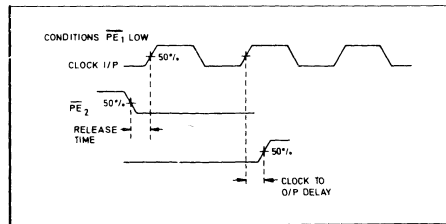

Fig. 4 Release timing diagram
- Release time is defined as the minimum time that can elapse between a H→L transition of a control input and the next L→H clock pulse transition to ensure that the $\neq 7$ mode is forced by that clock pulse (see Fig. 4).